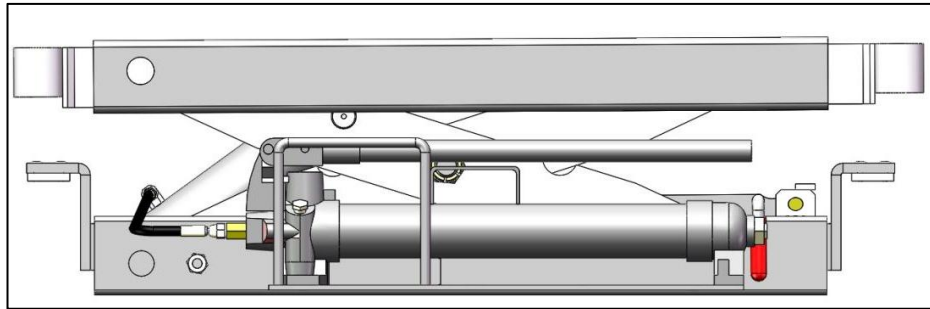

Fig.5
2.1 The extendable lower sliding are telescoped to shortest fully. See Fig 5. The limit screws which on both sides of the extendable lower sliding should be loosen before installation.